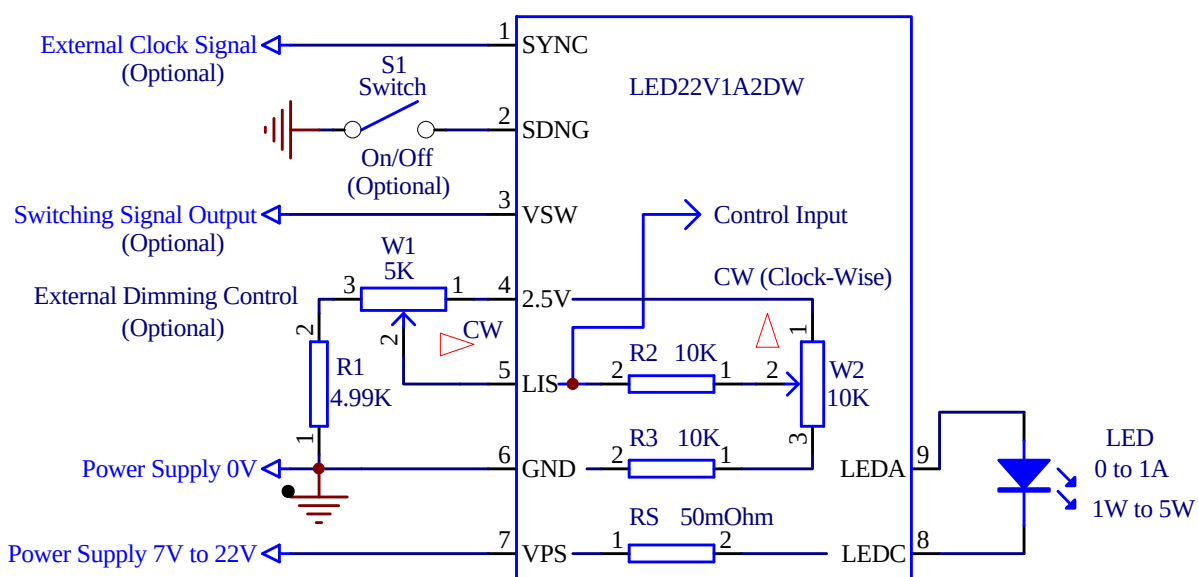
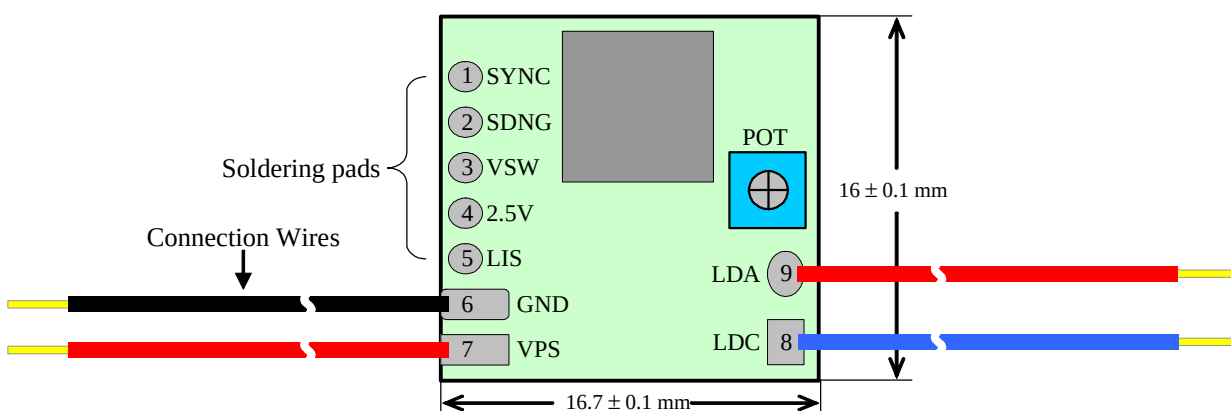

Figure 1 Typical Application of LED Controller LED22V1A2DW
Figure 2 Top View
Pin 5, LIS	Analog input/output. It can be used to set the output LED current or indicate the voltage for setting the output LED current. The relationship between this voltage and the output current is: LED current = (LIS (V) – 1.25V)/1.25 (A). For example, when this voltage equals to 2V, the output LED current is (2 – 1.25)/1.25 = 0.6A. The internal circuit is shown in Figure 1.
Figure 1 shows the connection for typical applications. Please note that all the optional connections are not necessary for the controller to operate. The circuitries shown inside the controller boarder are the internal circuits embedded in the controller. Figure 2 shows the top view of the controllers and its connection wires, the POT, and the soldering pads for the optional connections.